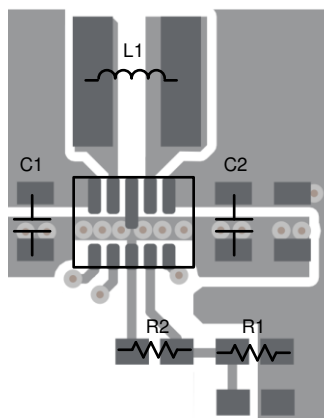

Figure 44. TPS63802 Layout
2. Separate AGND and PGND. Do not connect AGND and PGND directly at the IC. See Figure 44 as an example.